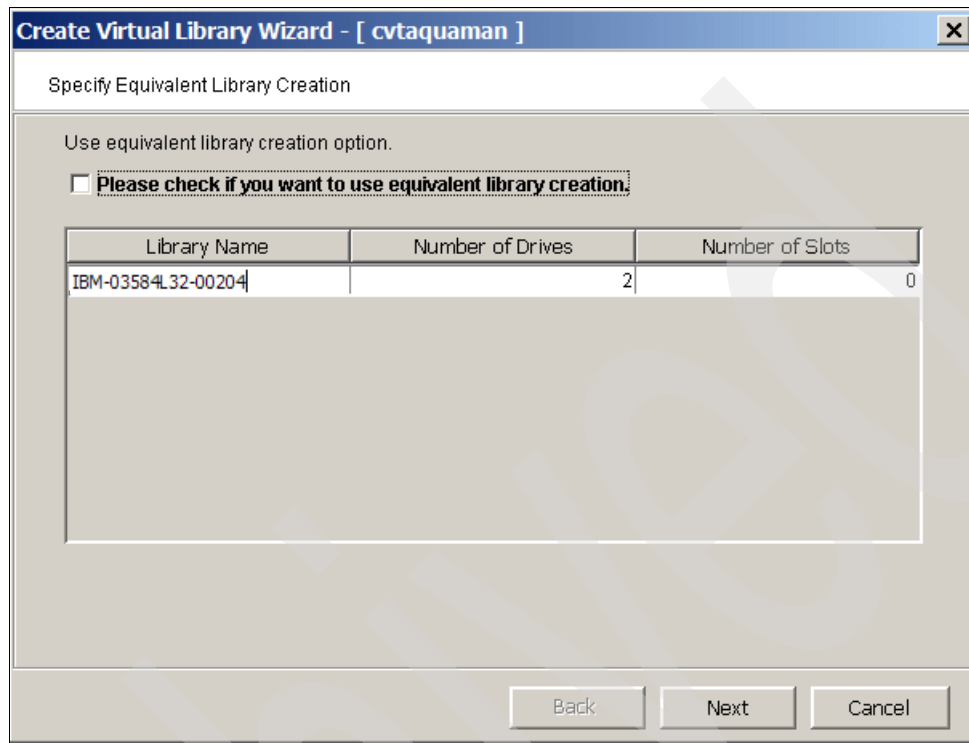

Figure 8-6 Choice for using default virtual tape library
2. In the first wizard window you can specify to create a virtual library based on existing default library, as can be seen in Figure 8-6. In our example we do not use the default library as a base, so we do not select this choice.